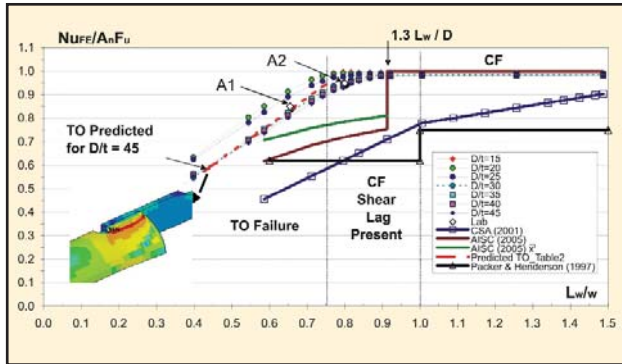

Figure 7: Results of parametric FE analysis and experiments (A1, A2) for connection type A (see Fig. 5).
Following experimental research on the connection types shown in Figure 5, an extensive detailed numerical study followed on the same connections using non-linear Finite Element (FE) Analysis (Martinez-Saucedo et al. 2005). A full parameter study expanded the total experimental and numerical database to over 700 connections (Martinez-Saucedo et al. 2006). The FE models revealed a gradual transition between the failure modes of block shear/tear-out (TO) and circumferential tension fracture (CF), with the latter sometimes influenced by the shear lag phenomenon (see Figure 7). A continual monotonic increase in the connection capacity was achieved as the weld length increased. The transition point between these failure modes depended on factors such as: the connection type, the weld length, the tube diameter-to-thickness ratio and the connection eccentricity, \bar{x} (the latter having a strong influence for elliptical HSS). This gradual transition between the failure modes is in contrast to the behaviour given by
design models in current specifications, since these specifications do not consider a gradual change between these limit states. Thus, a more unified and less conservative design model for slotted gusset plate HSS connections can be expected in the near future. Figure 7 also confirms that a value of $U = 1.0$ (hence 100% of $A_n F_u$) for circular HSS with $L_w/D \geq 1.3$ (AISC 2005b) is indeed correct, and for all practical tube diameter-to-thickness (D/t) ratios. However, the conservative connection capacity predictions by over-estimating the severity of the shear lag effect at $L_w/D \leq 1.3$ are very apparent.
If the results in Figure 7 are re-plotted in terms of $N_{uFE}/A_g F_y$, where A_g is the tube gross area, then it can be shown that long plate insertion lengths can achieve tension capacities very close to $A_g F_y$, even for this connection type with an open slot end. However, in tension-loaded energy-dissipating braces the connection will be required to resist an even greater load of $A_g R_y F_y$, where R_y is a material over-strength factor to account for the probable yield stress in the HSS bracing. This value of R_y is specified as 1.1 in Canada (CSA 2001), and 1.4 (for A500 Grades B and C (ASTM 2003)) or 1.6 (for A53 (ASTM 2002)) in the U.S. (AISC 2005a). The Canadian value is too low, based on personal laboratory testing experience, and a realistic value for the mean expected yield strength-to-specified minimum yield strength ratio is around 1.3, for CSA-grade HSS (CSA 2004). Tremblay (2002) reported a mean over-strength yield value of 1.29 for rectangular HSS surveyed, and Goggins et al.